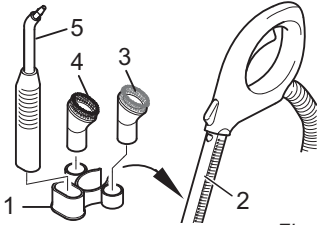

Fig. 5
5. Push the accessories mount (Fig. 5/1) onto one of the extension tubes (Fig. 5/2). Then push both round brushes (Fig. 5/3-4) and the jet nozzle (Fig. 5/5) on to the accessories mount.